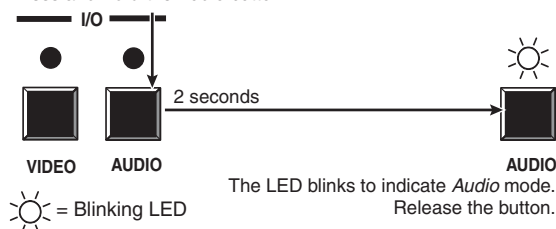

Figure 3-53 — Select Audio mode
2. Press and **hold** the Audio button for approximately 2 seconds (figure 3-53).